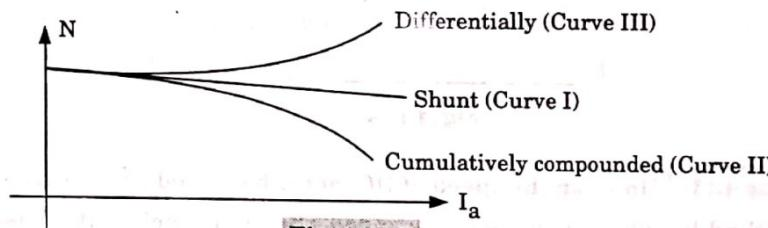

Fig. 4.10.2.
- Consider $N-I_a$ characteristics of shunt motor as shown in Fig. 4.10.2 by curve I.
\therefore Speed N decreases as $N \propto \frac{1}{\phi_T}$. This is shown in characteristics by curve II in Fig. 4.10.2.
This is shown by curve III in Fig. 4.10.2.